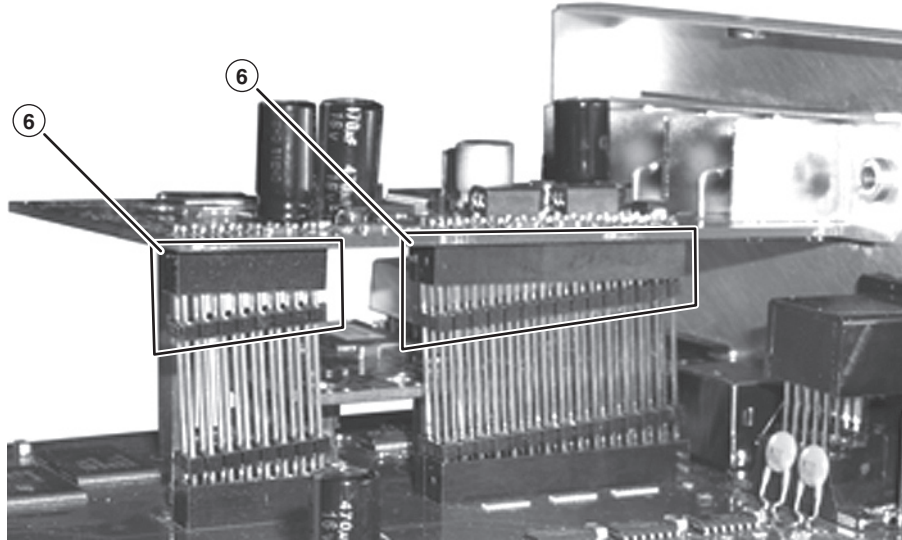

Figure 9 — Output board installation
5. See figure 9. Align the connector(s) on the board with those on the extension(s) (⑥). Gently apply pressure to carefully mate the output board with the main board.